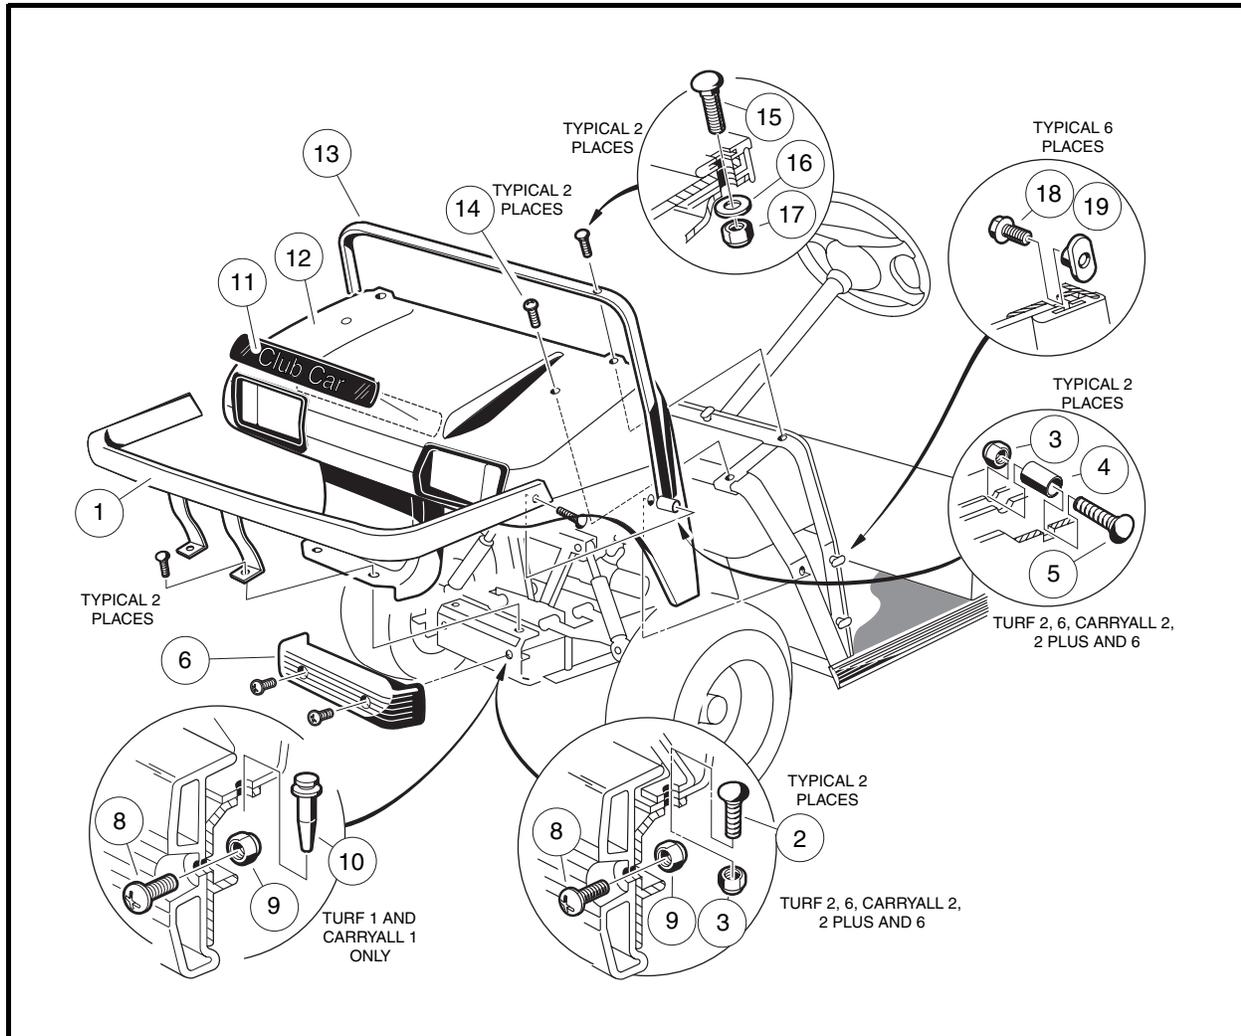

Figure 4-1 Front Body Assembly
1. Remove screws (8) and lock nuts (9) and lift front bumper (6) from vehicle frame (**Figure 4-1, Page 4-4**).
1. Install front body (12) under trim (13), align holes and finger-tighten screws (14) holding front body against frame (**Figure 4-1, Page 4-4**).
2. Install carriage bolts (15), washers (16), and lock nuts (17) onto front body trim. Tighten bolts to 11 ft-lb (14.9 N·m). Tighten screws (14) to 20 in-lb (2.3 N·m). **See following NOTE.**
- 5.1. Install two carriage bolts (2) and lock nuts (3) from the heavy-duty front bumper support braces and install bumper (1). Tighten bolts to 65 in-lb (7.3 N·m) (**Figure 4-1, Page 4-4**).
- 5.2. Install two carriage bolts (5), spacers (4), and lock nuts (3) into heavy-duty bumper mounting positions located on sides of front body (12). Tighten bolts to 65 in-lb (7.3 N·m).
6. **Turf 1 and Carryall 1 vehicles:** Install two push type blind rivets (10) that secure lower front body to frame (**Figure 4-1, Page 4-4**).
7. Install front bumper onto vehicle and install screws (8) and lock nuts (9). Tighten to 65 in-lb (7.3 N·m).